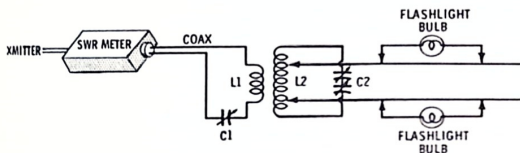

Fig. 3-13. Adjusting an antenna tuner with an SWR meter.
Fig. 3-13 shows the circuit of an antenna tuner like that described in detail in Chapter 1. The tuner is very easy to
1. Make the hook-up as shown in Fig. 3-13.
The data in Chapter 1 tells in detail how to build a tuner of the type shown in Fig. 3-13. However, you may have occasion to depart from the exact design, perhaps to use some coils which are already in your junk box.